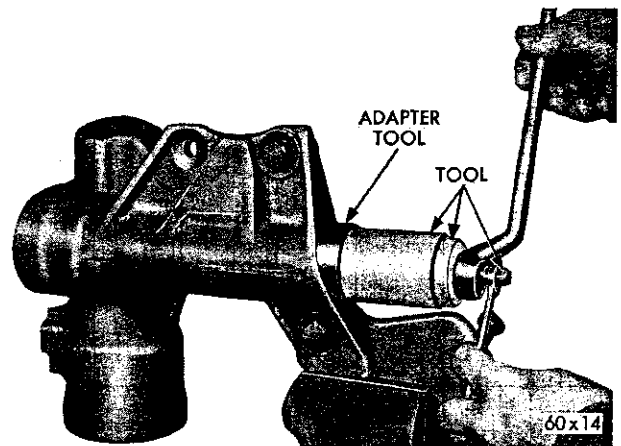

Fig. 40—Removing the Housing Lower Bushing
(3) Remove the oil seal snap ring and oil seal back up washer and perform operation 2 to remove the inner oil seal.
(4) If necessary to remove the housing bearings, use puller, Tool C-3332 with adapter SP-3062 (Fig. 40) as follows: